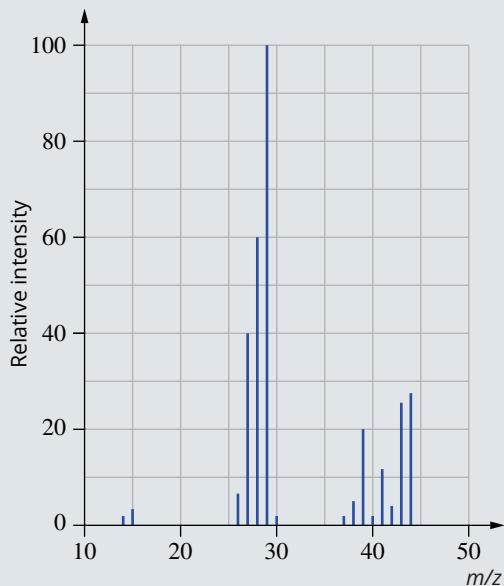

FIGURE 12.5.2 Mass spectrum of an unknown alkane.
- 8** The mass spectrum of an alkane is shown in Figure 12.5.2.